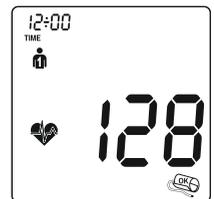

Fig. 1
- b) Cuff indicator: if the cuff does not fit correctly, the symbol  will be displayed with flash during taking the measurement. The symbol  indicates well-fitted cuff. (Fig.1)